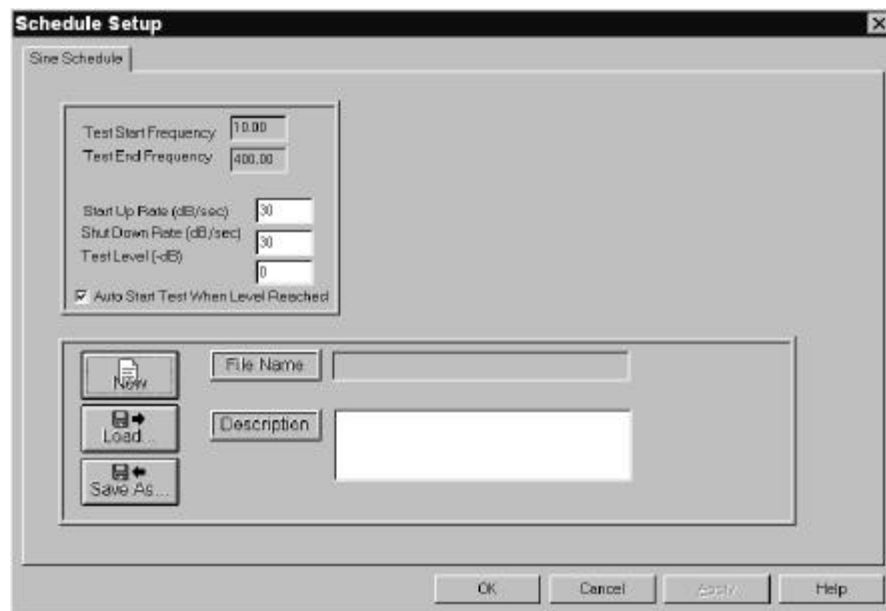

Figure 1-6. Schedule Setup Window
5. Click **SETUP**⇒**SCHEDULES** or the <Setup Schedules> Button. The Schedule Setup Window appears. See Figure 1-6.